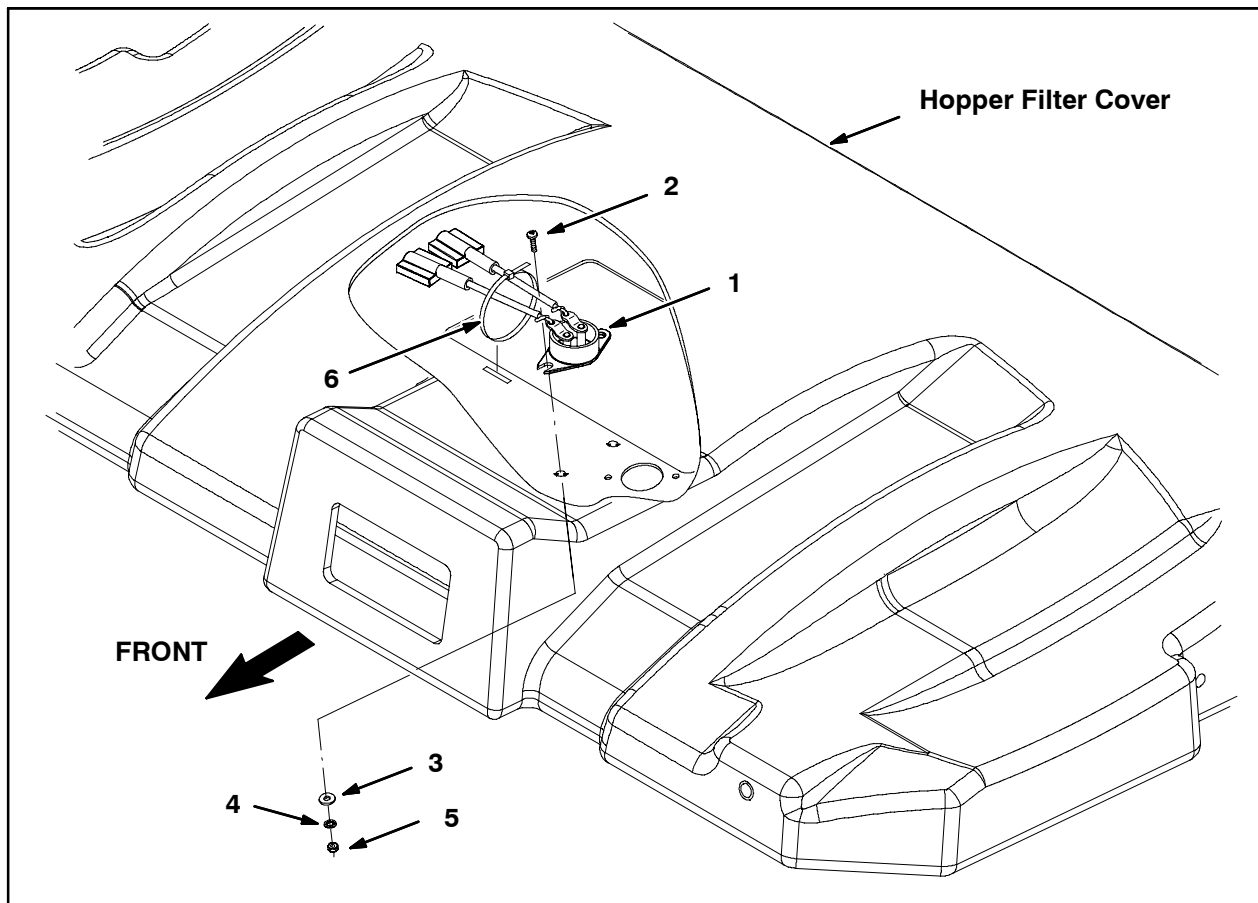

FIG. 4
4. Use two pan screws (2), two flat washers (3), two lock washers (4), and two hex nuts (5) to install the new Thermo-Sentry sensor (1) onto the hopper filter cover. Refer to Fig. 4.
5. Connect the wire harness inside the hopper filter cover to the Thermo-Sentry sensor (1). Refer to Fig. 4.
6. Route the wires from the Thermo-Sentry sensor (1) past the 3/8" hole in the upper filter cover and use a cable tie (6) to secure the wires to the cover. Refer to Fig. 4.